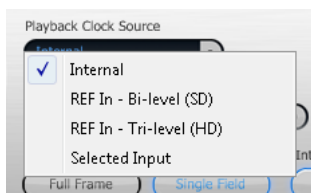
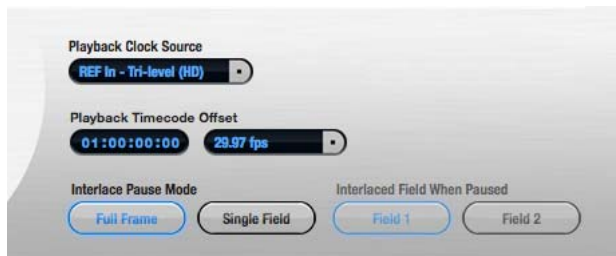

Figure 6-28: Playback Clock Source menu.
Figure 6-27: The Playback tab settings.
The *Playback* tab (Figure 6-27) provides settings that apply to video playback from Premiere Pro (as opposed to capturing). Therefore, these settings relate to the current settings in Premiere and its timeline.
In Playback mode, you can specify the timing reference for the V4HD in the *Playback Clock Source* menu (Figure 6-27). Four choices are provided.
Choose *Internal* (Figure 6-28) to make the V4HD resolve to its own internal clock. This setting is best when you do not need to resolve the V4HD to house sync (blackburst).
Choose *REF in — Bi-level (SD)* (Figure 6-28) when you wish to resolve the V4HD to an SD clock source connected to its VIDEO REF input on the rear panel. Use this setting to resolve the V4HD to house sync (blackburst).
Choose *REF in — Tri-level (HD)* (Figure 6-28) when you wish to resolve the V4HD to an HD clock source connected to its VIDEO REF input on the rear panel.
Choose *Selected Input* (Figure 6-28) when you wish to resolve the V4HD to the video signal being received from the currently chosen input in the *Video Source* menu (Figure 6-3 and Figure 6-5), even though the V4HD is currently in *Playback* mode and you are not capturing or converting the source video signal.
The *Playback Timecode Offset* options (Figure 6-27) let you specify the frame format and timecode offset for timecode generated by the V4HD during playback. Make sure these settings match their corresponding settings in your Premiere Pro project, so that the V4HD generates timecode that matches Premiere Pro's time line.
If you are working with an interlaced video format, the *Interlace Pause Mode* (Figure 6-27) lets you choose between viewing a full frame or individual fields when Premiere Pro parks on a frame. If you choose the *Single Field* option, the *Interlaced Field When Paused* options let you specify the video field you wish to see. When the *Interlace Pause Mode* option is set to *Full Frame*, the *Field 1* and *Field 2* options are grayed out. Clicking on these buttons will not bring the MOTU Video console application to the front, so you can switch between fields, or between Full Frame and Single Fields modes, while Premiere Pro is the front application.
- the Playback Clock Source (Figure 6-27 and Figure 6-28)
Click the Playback tab to view the Playback Signal Path (Figure 6-2 on page 42) and Playback tab settings (Figure 6-27 on page 53).
In the Playback tab, make sure the *Playback Timecode Offset* and frame rate match your Premiere Pro sequence offset and frame rate. If you want Premiere Pro to resolve to an external sync source during playback, choose the desired source from the *Playback Clock Source* menu (Figure 6-28 on page 53); otherwise, leave it set to *Internal*. For
interlaced output from the V4HD, use the *Interlace Pause Mode* options (Figure 6-27) to determine what you'll see when Premiere Pro is paused.